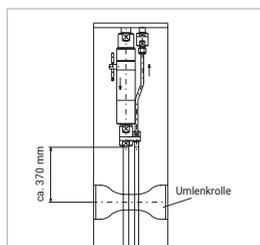

Figure 1
- ▶ If you use the WEH® Product without a WEH® Dispenser mounting, a return pulley must be installed at a distance of approx. 370 mm from the lower edge of the breakaway coupling (*Figure 1*).